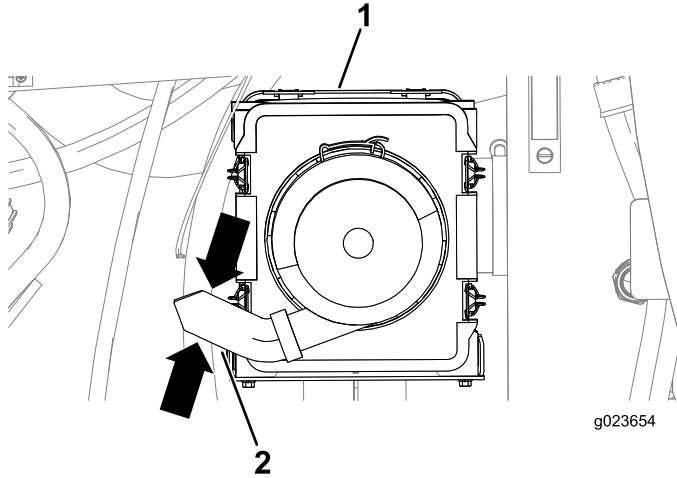

Figure 117
3. Squeeze the sides of the dust valve on the air-cleaner cover to release any collected water, dust, or dirt from the valve. (Figure 117).